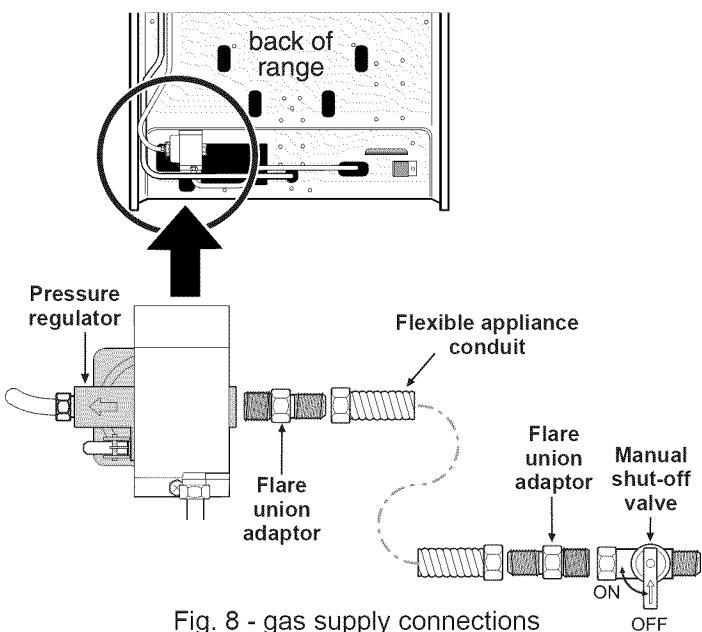

Fig. 8 - gas supply connections
- a. Install an external manual gas shut-off valve to gas supply line in an accessible location outside of range. Be sure you know where and how to shut off the gas supply to the range (See Fig. 8).
- b. Install 1/2" flare union adapter to gas pressure regulator using **no more than 15ft./lbs.** of torque (Refer to Fig. 8).
- d. Install flare union adapter to external manual shut-off valve (See Fig. 8).
e. Attach flexible appliance conduit to flare union adaptor on shut-off valve (See Fig. 8).